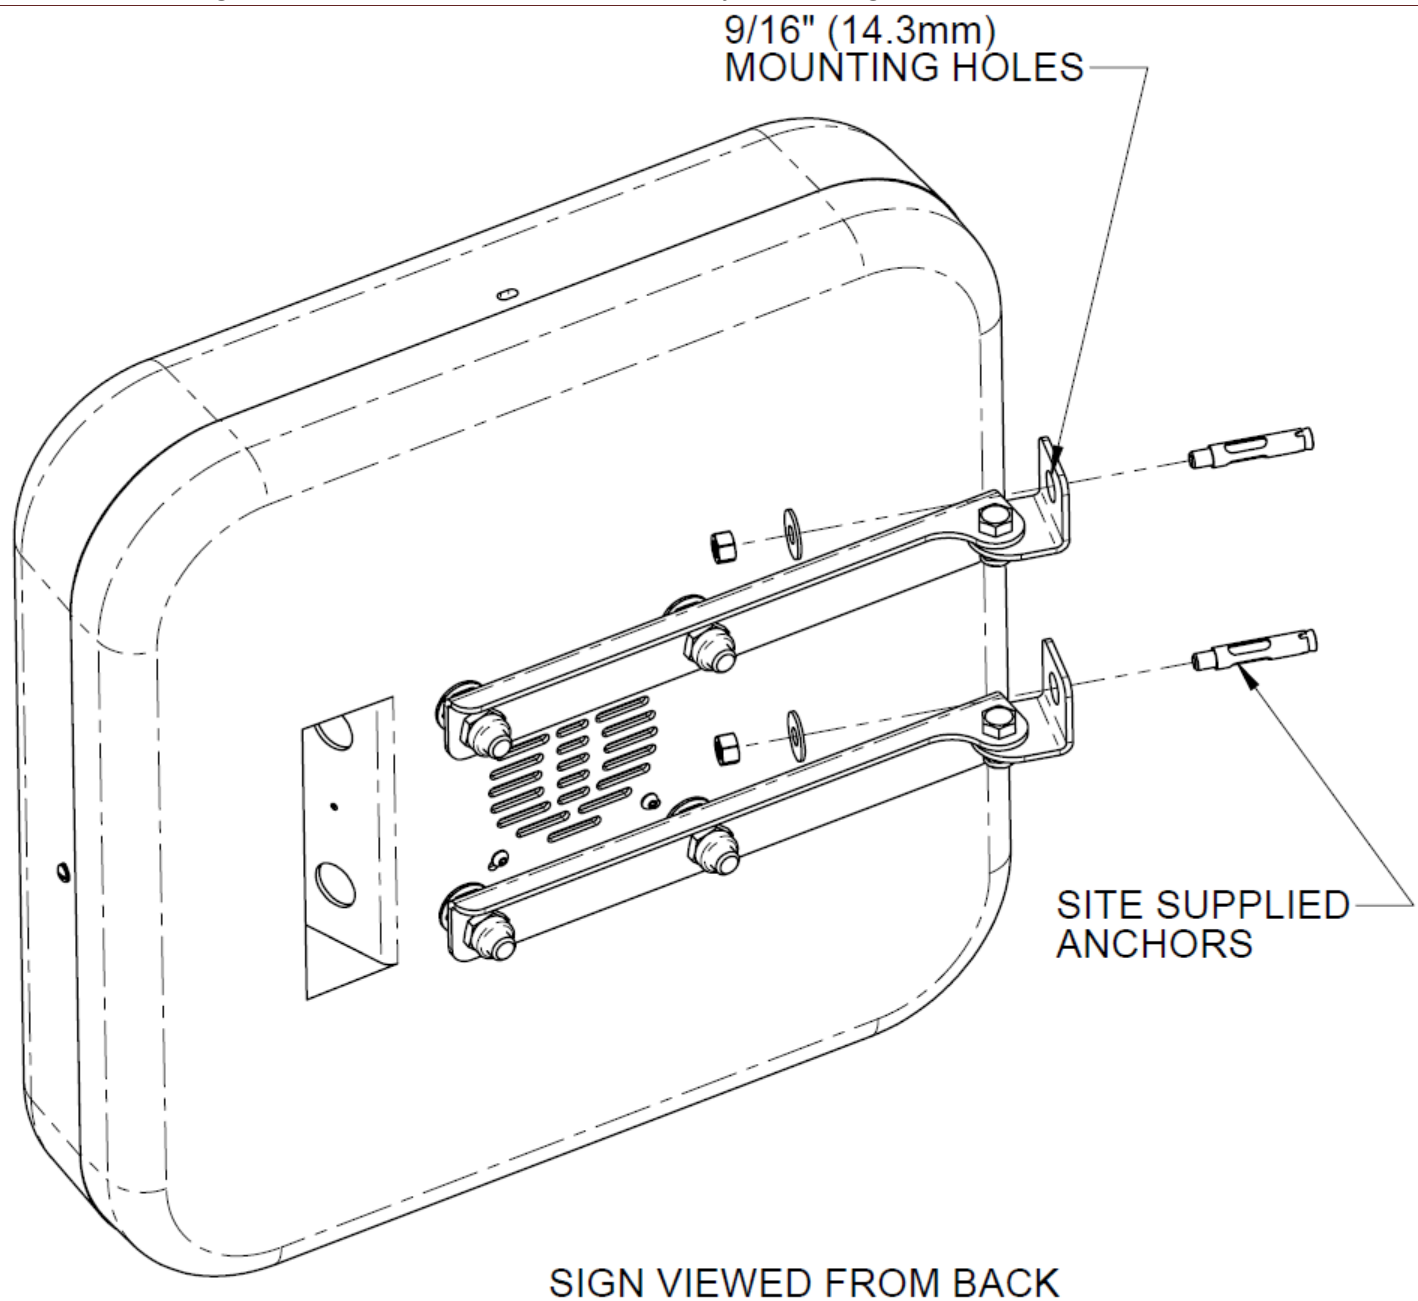

Figure 163 - Wall Mounting the In-Bay Sign
- Mounting the sign to the wash bay wall requires two installer-supplied fasteners to secure the sign to the wall. Use the appropriate fasteners for the wall material similar to as shown in Figure 163. Mount the sign securely to the wall.